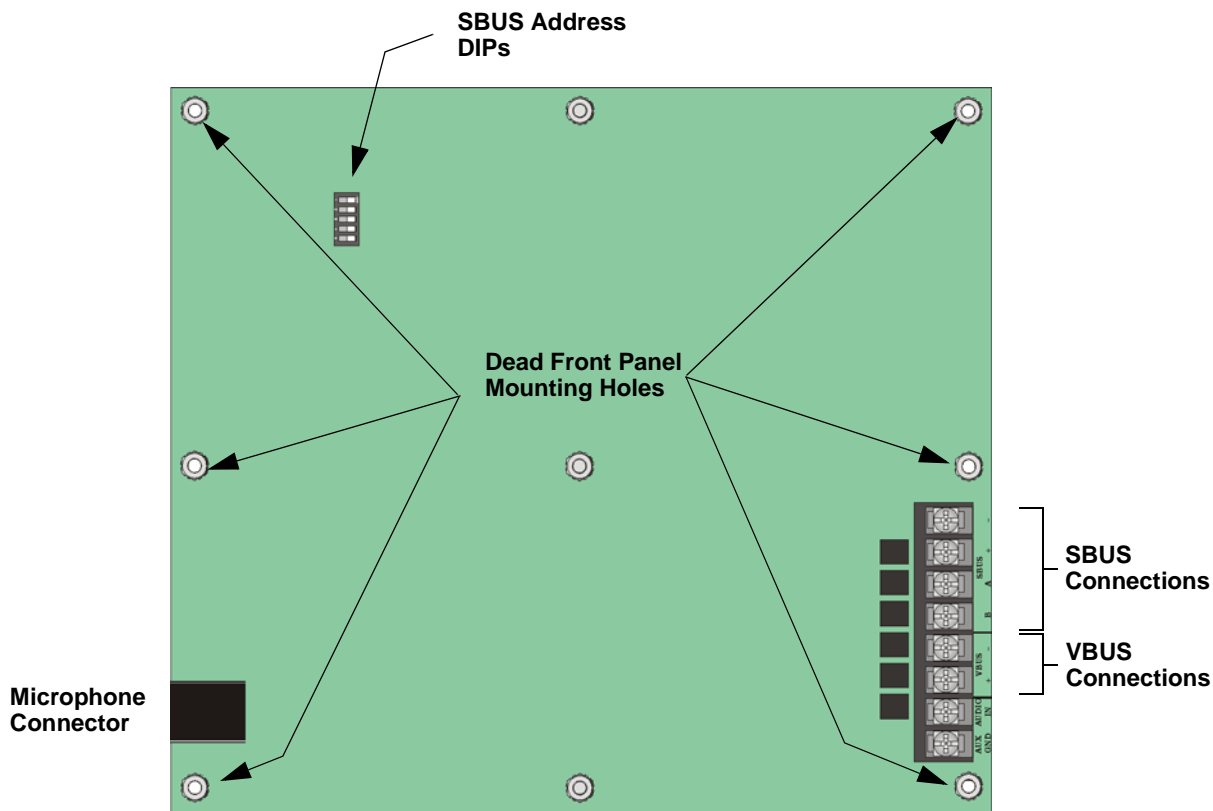

Figure 3-38 Back View of SCSS-700RM
3. Disconnect any devices connected to the VBUS. See Figure 3-38.